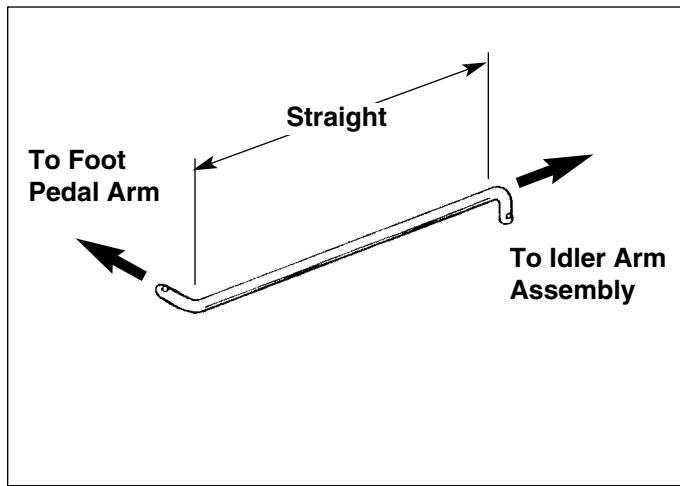

Figure C-10. Check Clutch Rod (Hydro Models Only)
4. Hydro Models only: The clutch rod must be straight between the bends at each end (Figure C-10). If the clutch rod is bent or damaged, remove the cotter pin and washer that secure it to the foot pedal arm/parking brake cam, and replace it.